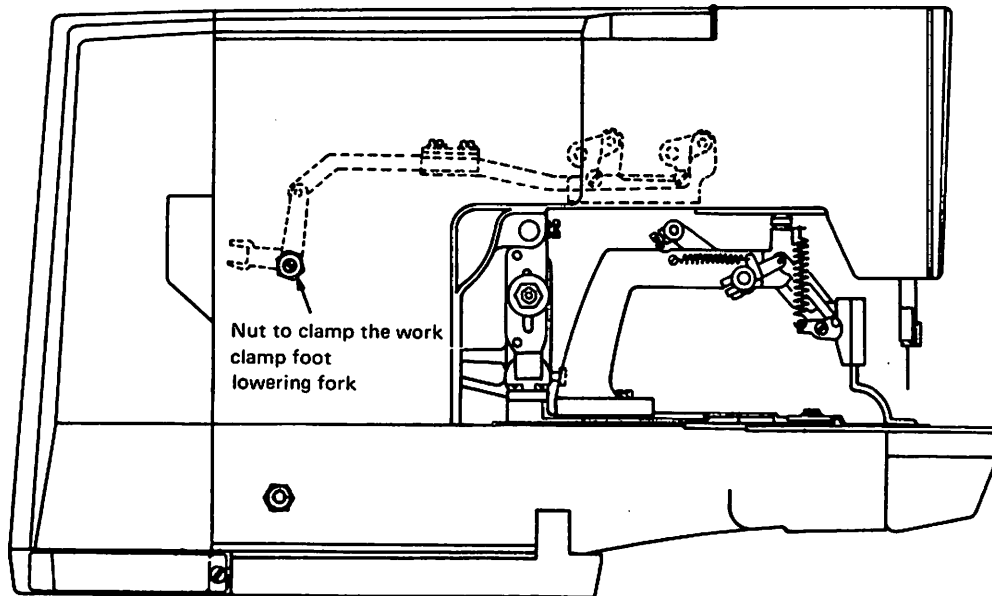

Fig. 49
- 2) Loosen the nut which clamps the work clamp foot lowering fork and adjust the height by rotating the stud (Fig. 49).